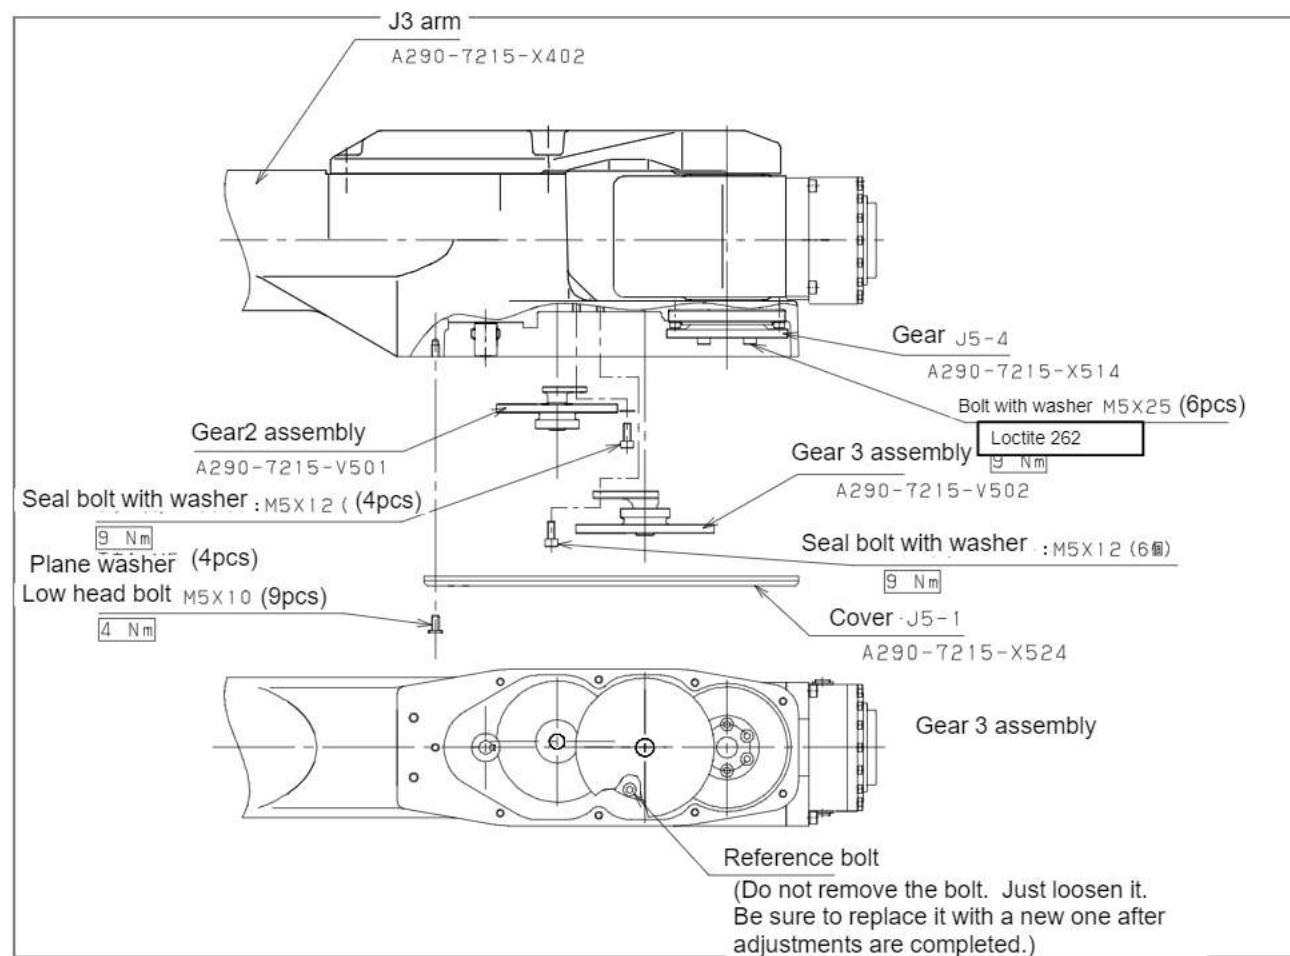

Fig 6.10 Replacing the J5-axis gear
- 5 As shown in Fig. 6.10, remove the nine $M5 \times 10$ flat-head bolts, and dismount the J5-1 cover (A290-7215-X524).